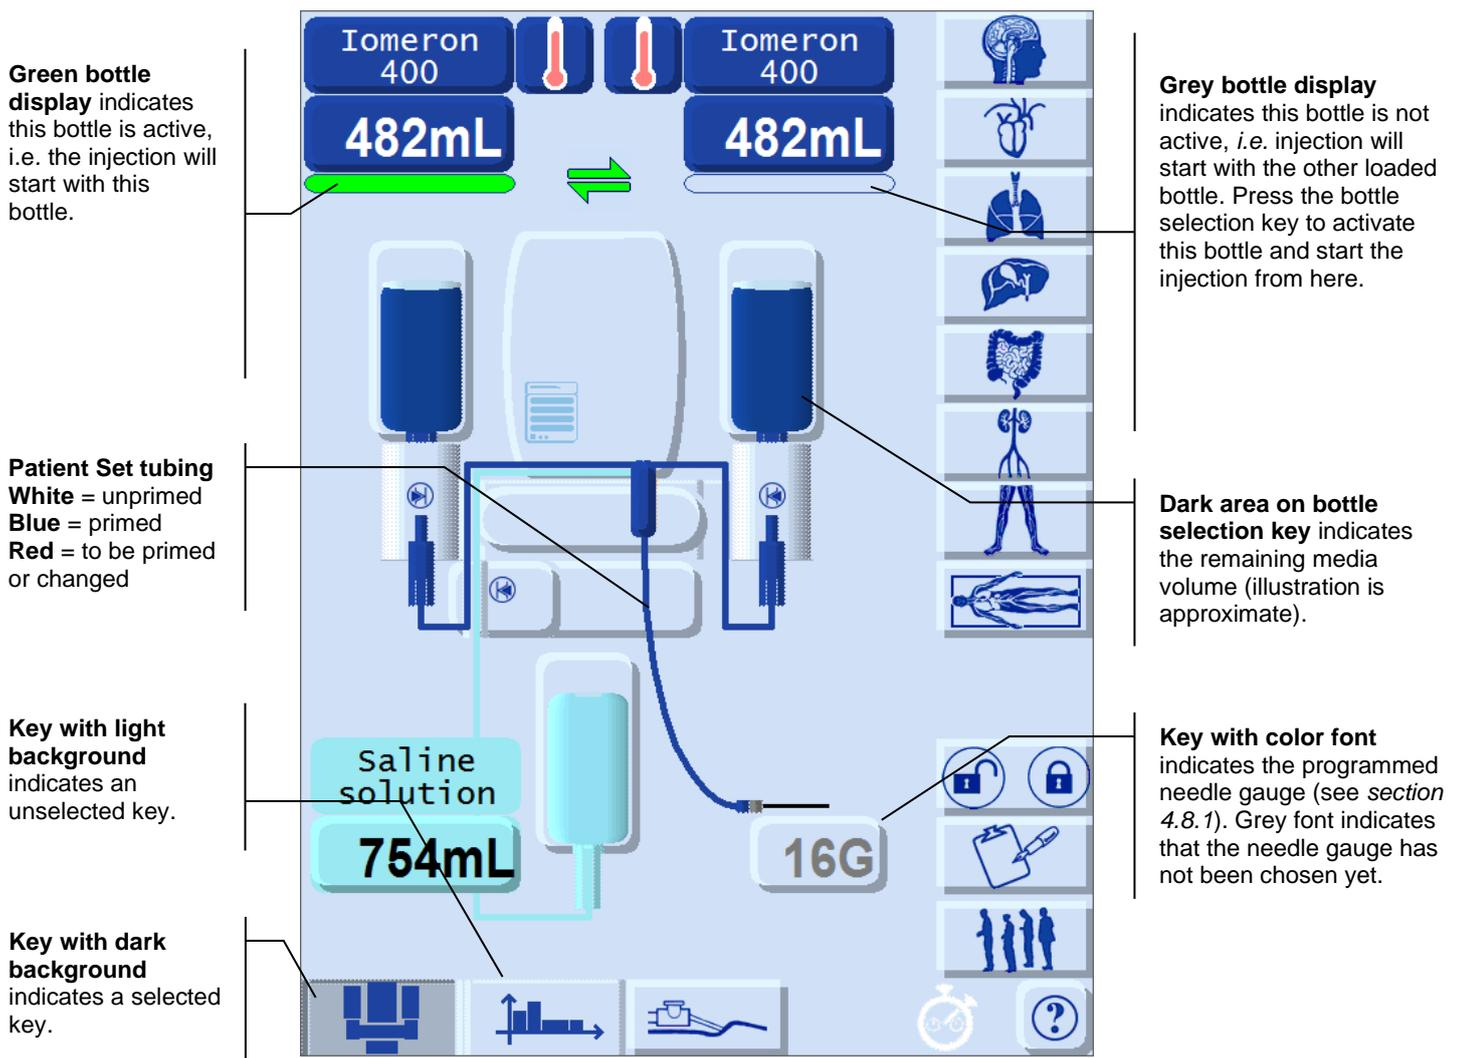

Figure 17: Status indicators on the Injector Status Page
- The quantity of contrast media remaining in each of the two bottles mounted on top of the device (see *Figure 17*).
- The active bottle of two bottles mounted from which the delivery will start (see *Figure 17* and *Figure 18*).